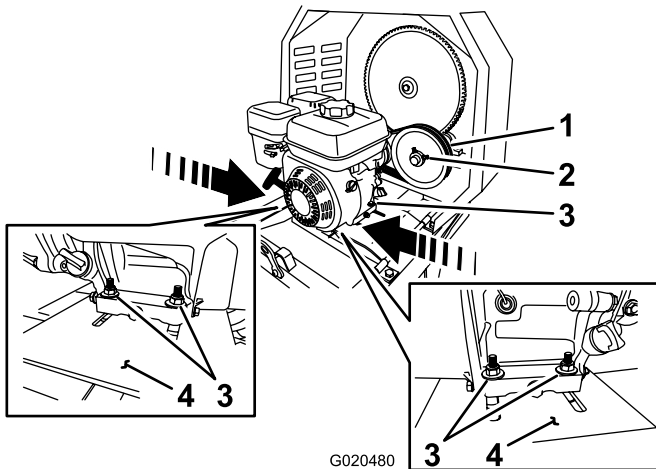

Figure 56
- B. Loosen the nuts and bolts that secure the engine to the engine deck (Figure 56).
- **Increase the air gap**—move the engine away from the idler pulley (Figure 56).
- **Decrease the air gap**—move the engine toward the idler pulley (Figure 56).